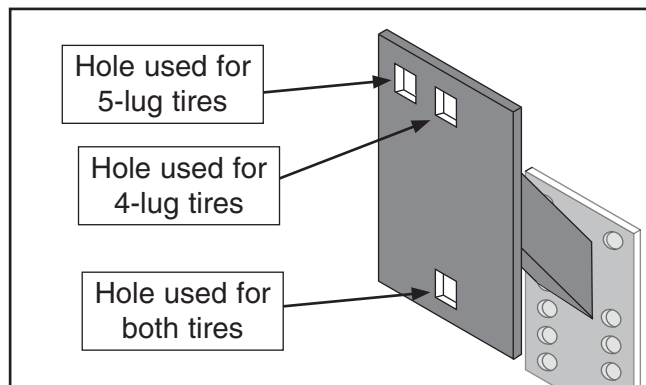

Figure 3. Hole orientation.
1. Refer to **Figure 3** for the two carriage bolt positions to use depending on the number of lugs on your spare tire.
2. Insert the two carriage bolts into the mounting plate, and secure the wheel and hardware, as shown in **Figure 3**.